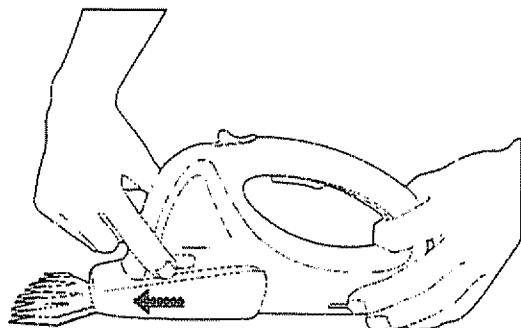

Figure 2.
3. Grip the rear of the handle with one hand, while gripping the black release buttons (on each side of the unit) with the thumb and index finger of the other hand. See Figure 2.
4. Squeeze in and pull the release buttons **FORWARD** and lift the tool upward to disengage it from the blade and gearbox. See Figure 2.